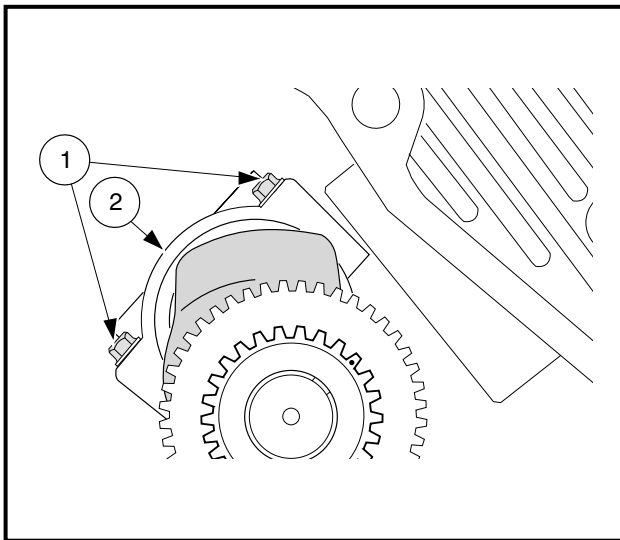

Figure 13-50 Connecting Rod Cap Bolts
1. Turn crankshaft to expose the two connecting rod cap bolts (1) (**Figure 13-50, Page 13-27**).
2. Loosen the cap bolts and take them out together with the connecting rod cap (2).